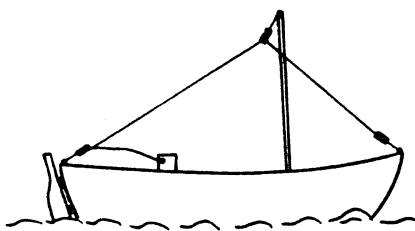
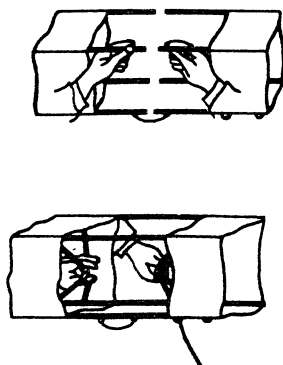

Fig. 2.
Fig. 3.
- 1) Raise one of the antennas high and in the clear. Coiled up inside container cover is a short heavy antenna to be supported by mast as shown in Fig. 2. The transmitter front panel carries a reel of small antenna wire for use with the kite. Assemble kite as shown in Fig. 3 and fasten antenna wire to it. Loosen nut holding the antenna reel to permit reel to rotate, but loosen it only so much that a certain brake action is exercised.